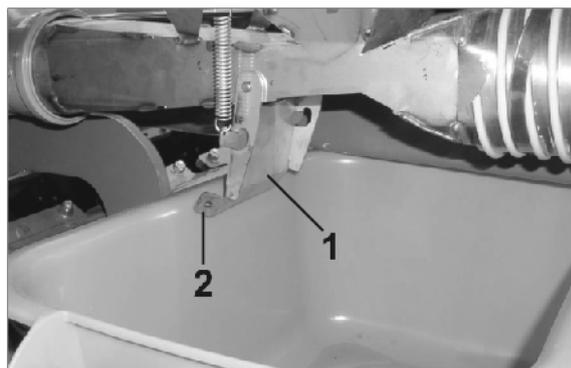

Fig. 121
- Open the injector sluice flap (Fig. 121/1) so that the seed/fertiliser can flow into the calibration trough.
**Risk of contusions on opening and closing the injector sluice flap (Fig. 121/1).**
**Hold the injector sluice flap only by the lug (Fig. 121/2), otherwise there is a danger of injury when the spring-loaded flap snaps shut.**
**Never insert your hand between the injector sluice flap (Fig. 121/1) and the injector sluice.**